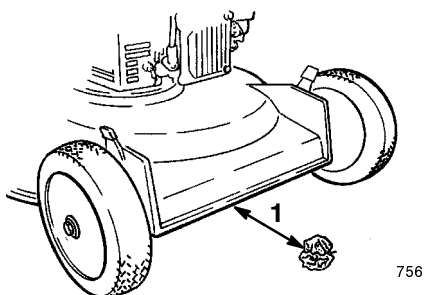

Figure 14
5. Take a half sheet of newspaper and crumple it into a ball small enough to go under the deck (about three inches or 76 mm in diameter) as shown in Figure 14.
6. Place the ball of newspaper five inches (12.7 cm) in front of the lawn mower (Fig. 14).
- A. Place the ball of newspaper five inches (12.7 cm) in front of the lawn mower (Fig. 14).